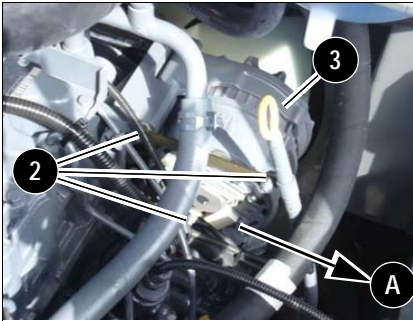

Fig. 83: Retightening the V-belt
- ☞ Use a suitable tool to push the alternator in the direction of arrow **A** until reaching the correct V-belt tension (fig. 83).